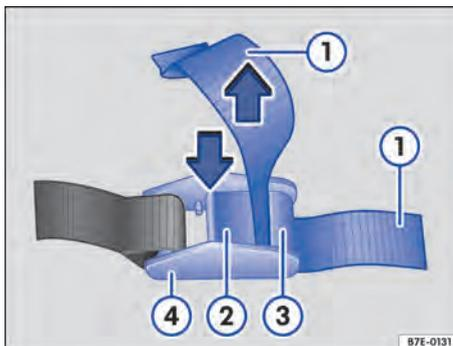

Fig. 139 Fastening the buckle strap.
1. Check before tightening: The lever → Fig. 139 ② must not be in contact with the load, any edges or protruding objects.
2. Press and hold the lever → Fig. 139 ② on the buckle ④.
3. Feed the buckle strap → Fig. 139 ① from the back to the front between lever ② and rib ③.
- Tighten the buckle strap → Fig. 139 ① and release the lever ②.